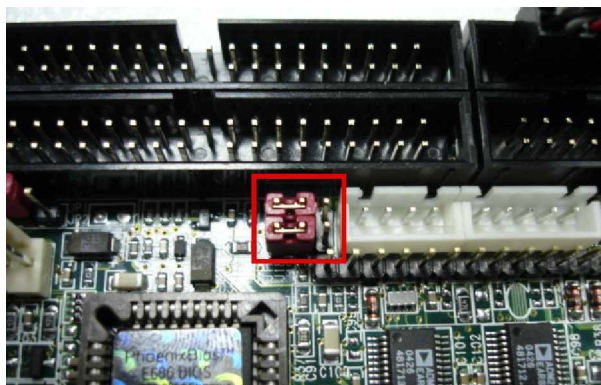

Figure 5-8
Step 2: Please adjust AT/ATX Jumper on JP3 to short 1-3, 2-4 pins, then it can support AT power scheme. (Figure 5-8)